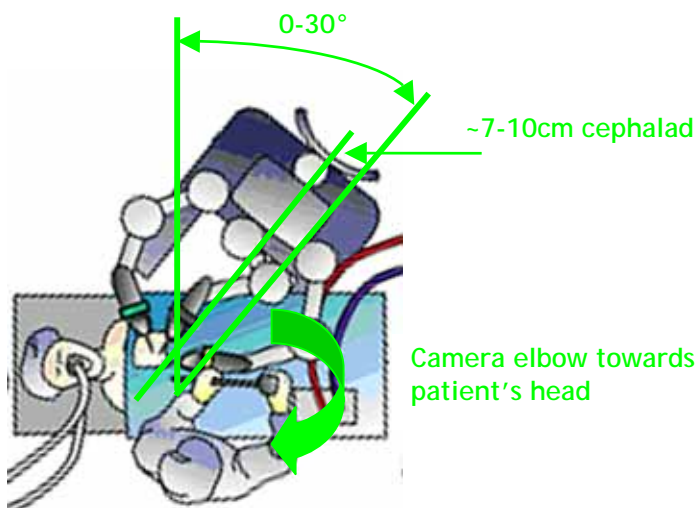

Figure 18: Patient Cart rolled in at a slight angle and offset towards the patient's feet to provide more space for the 4th instrument arm on the left side.
- ❶: Right instrument
- ❷: Atrial Retractor
- ❸: Left instrument
- The *da Vinci S* is rolled in at a 0-30° angle to accommodate for the natural position of the mitral valve in the chest (depending on patient's anatomy). The central column should be lined up ~7-10cm cephalad of the camera port in the right chest to allow more space on the left for the *da Vinci* arms. [Figure 18]